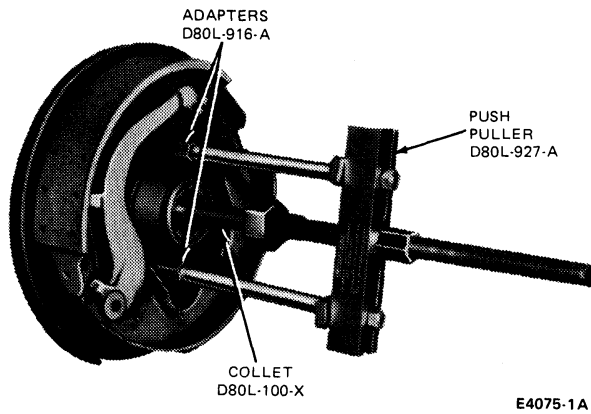

FIG. 6 Removing Bearing—Dana Model 60 Semi-Floating Axle
3. Pull the bearing from the axle tube using push puller D80L-927-A, adapters D80L-916-A and collet, D80L-100-X as shown in Fig. 6.